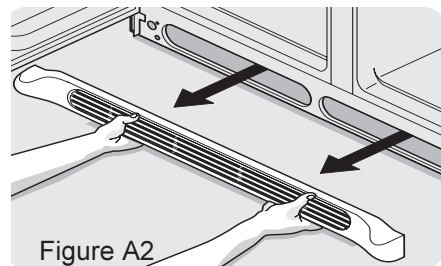

Figure A2
2. Remove toe grille by pulling it straight out. (See Figure A2.)